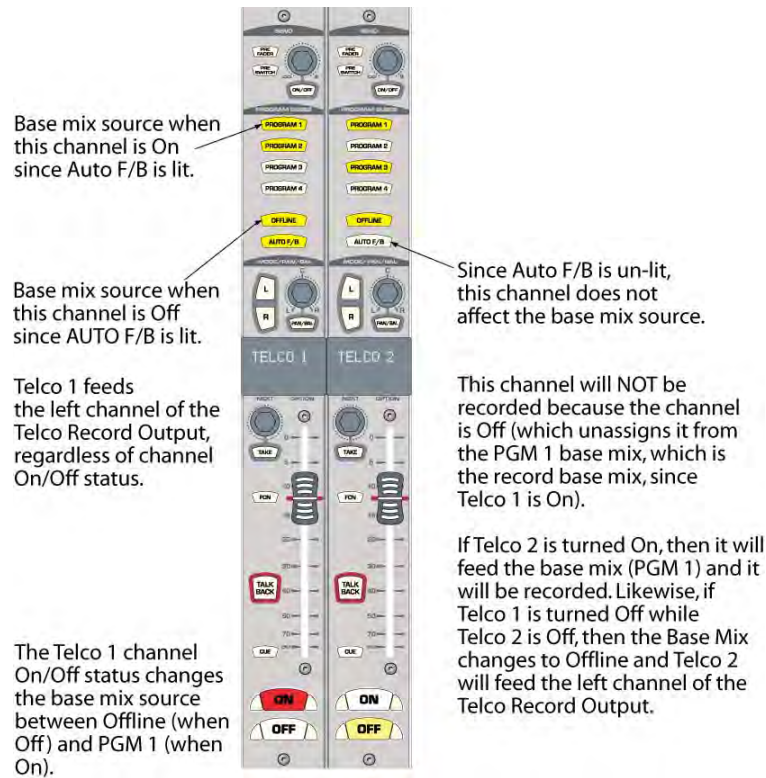

Figure 3.13. Recording Functions with Auto F/B On for Any To Record Telco Channel
- AUTO F/B is on at least one To Record Telco (Figure 3-13):